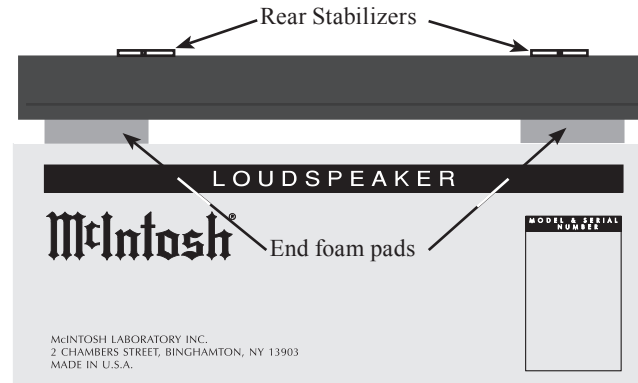

Figure 1
6. Close the top flaps of the shipping carton and place the top and bottom foam pads on top of the carton. Refer to figure 1. A for the next several steps.